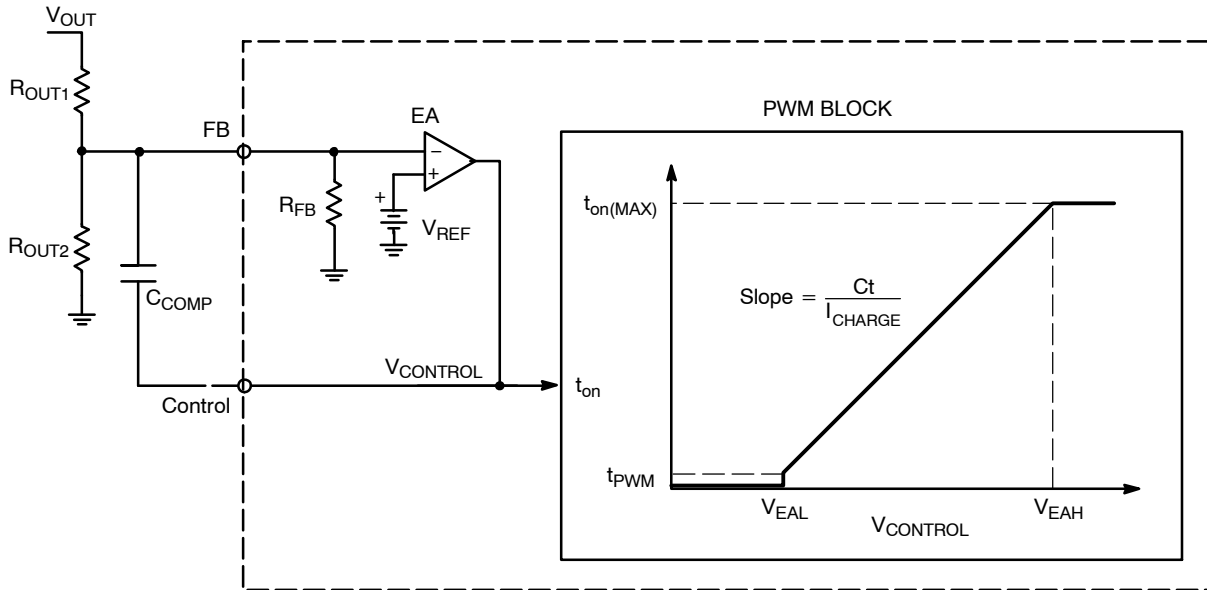

Figure 25. Error Amplifier and On Time Regulation Circuits
The NCP1607 is configured to regulate the boost output voltage based on its built in error amplifier (EA). The error amplifier's negative terminal is pinned out to FB, the positive terminal is tied to a $2.5 \text{ V} \pm 1.6\%$ reference, and the output is pinned out to Control (Figure 25).